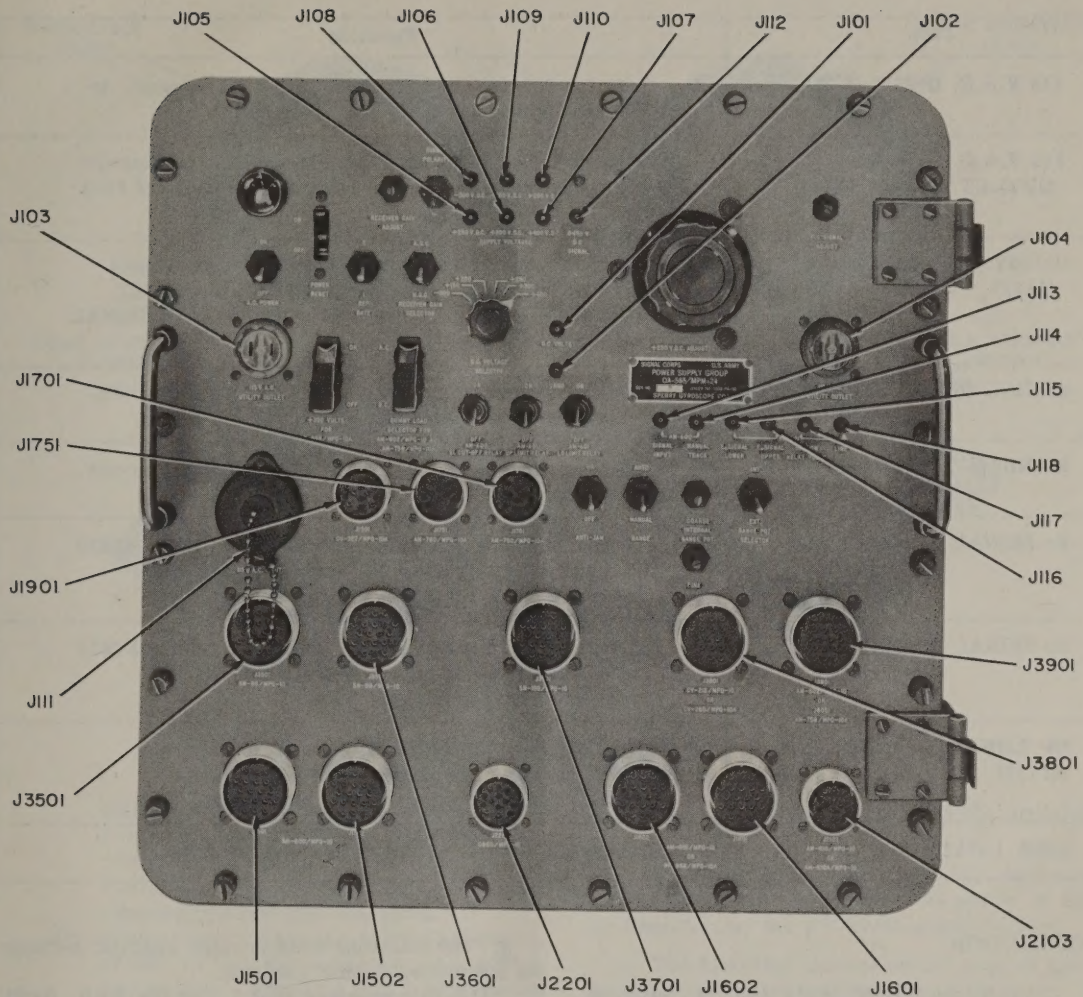

Figure 2. Control panel, jacks and receptacles.
ponents under test are connected) of the control panel (fig. 2) and indicates the function of each:
b. Connect the chassis under test to its associated receptacle on the control panel (fig. 2) by use of the correct cable.
- (1) Synchronizer unit 1. Set the REP. RATE switch to provide either 1,100 (position 1) or 1,000 (position 2) pulses per second as required.
- (2) Synchronizer unit 2. Place the RANGE POT SELECTOR at INT. and adjust the INTERNAL RANGE POT for the required amplitude of range signal. When an external range signal is preferred, set the RANGE POT SELECTOR at EXT. and connect a range servo unit to J3801.
- (3) Synchronizer unit 3. Set the RECEIVER GAIN SELECTOR at M.G.C. and adjust the RECEIVER GAIN ADJUST for the desired gain. For automatic gain control, set the RECEIVER GAIN SELECTOR at A.G.C.
- (4) Range servo amplifier. Place the DUMMY LOAD SELECTOR in the A.C. position for Electronic Control Amplifier AM-602/MPQ-10. Place the DUMMY LOAD